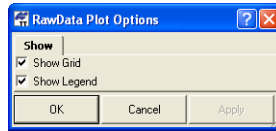

Figure 11-31. Raw Data Plot Options
- activate the **RawData Plot Options** dialog box (Figure 11-31) and show/hide *Grid* and *Legend*.